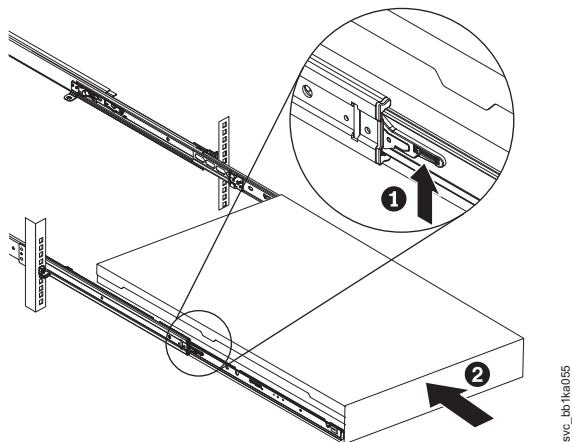

Figure 87. Raising the locking levers of the slide rails of the rack
8. Lift the locking levers (**1** in Figure 87) on the slide rails and push the server **2** all the way into the rack until it clicks into place.